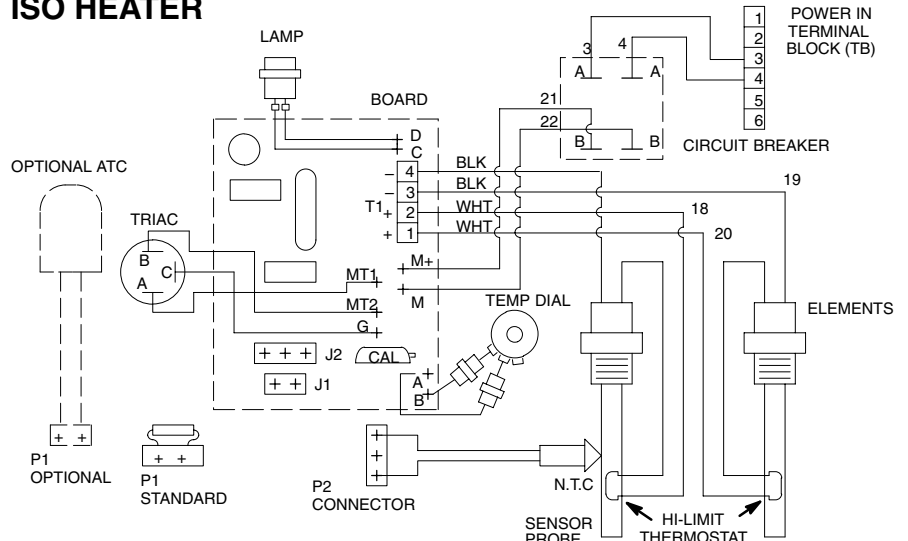

Fig. 19
11. Insert the new probe wires into the outer slots of the connectors P2. See Fig. 19, page 29. Do not connect a wire to the center.
16. Remove the control panel cover (216). Guide the wires of the heater up through the bottom of the control box.
17. Remove the strap holding the heater. Position the heater mounting bracket over the threaded shafts of the cylindrical mounts (104 and 105). Install the lockwashers (103) and nuts (102).
19. Reinstall the heater element and thermostat wires at terminal block T1 of the circuit board. See Fig. 19 for the proper wire positions.
20. Reinstall the control panel cover (216).
Heater No. 235840 is shown in Fig. 19. The wiring for Heater No. 235839 is identical *except* the second set of elements (wires 9, 10, 19, 20) are not used.